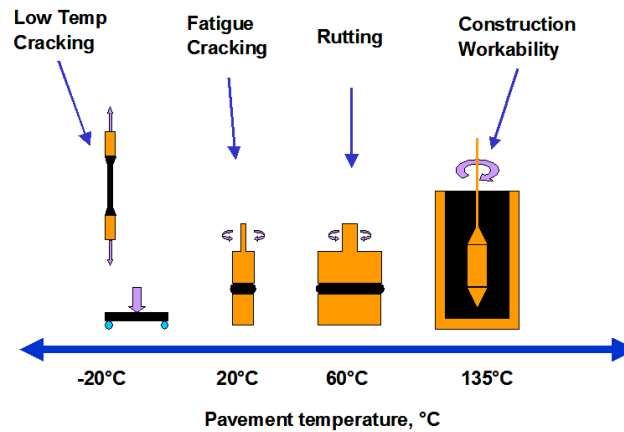

Figure 2 Asphalt PG grading tests
Therefore, the Strategic Highway Research Program (SHRP) sponsored \$50 million of research funding on asphalt binders to relate the specifications to actual pavement performance. The new Performance Grade (PG) asphalt binder specifications provide better viscoelastic measurements throughout a broad temperature range (Figure 2). Numbers of AASHTO and ASTM standards (e.g. AASHTO T315, TP5, M320; and ASTM D7175, D6521, D6373 etc.) have been published regarding evaluations of asphalt performance. More specifications to better mimic the real road traffic situations are still under investigation.